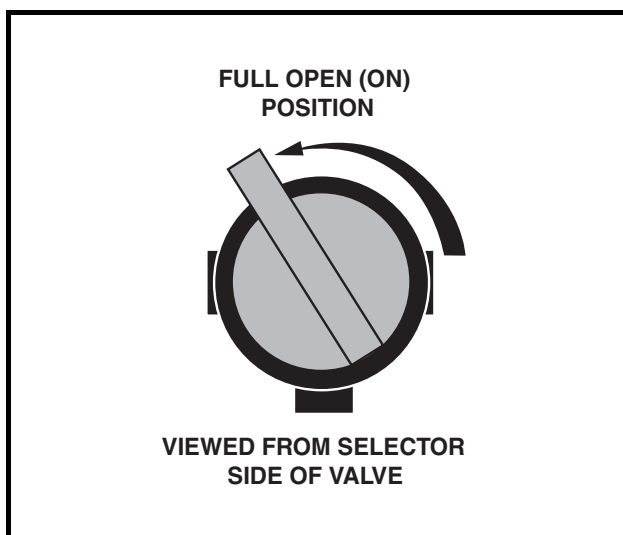
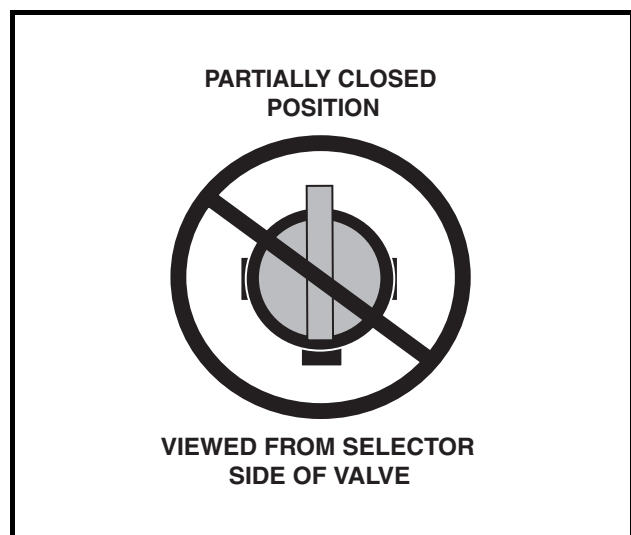

Figure 13 Fuel Shut-off Valve – Open Position
Figure 14 Fuel Valve – Partially Closed Position
4. **Gasoline vehicles only:** Completely open the fuel shut-off valve (**Figure 13**). Ensure the valve is fully open. A partially closed fuel shut-off valve combined with the use of the choke can result in a fouled spark plug and engine failure (**Figure 14**).